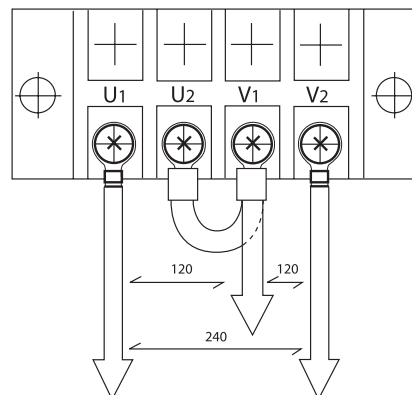

Figure 25: Output Terminal Board, 120/240 Volt Output
- b. Connect U2 and V1 on the output board (Figure 25). Connect output leads to U1 and V2 and neutral lead to V1 (or U2). 240 volt output is available from the leads connected to U1 and V2. The 120 volt load should be divided as equally as possible between two 120 volt circuits.